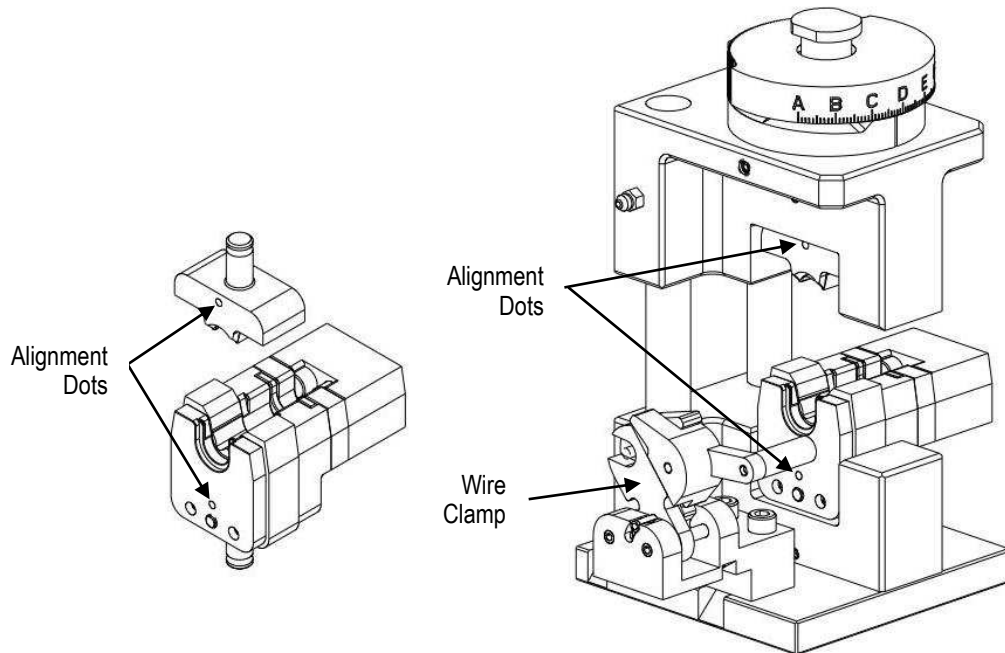

Figure 2
- The alignment dots are facing the wire clamp on the Modular Tool Holder (see Figure 2).